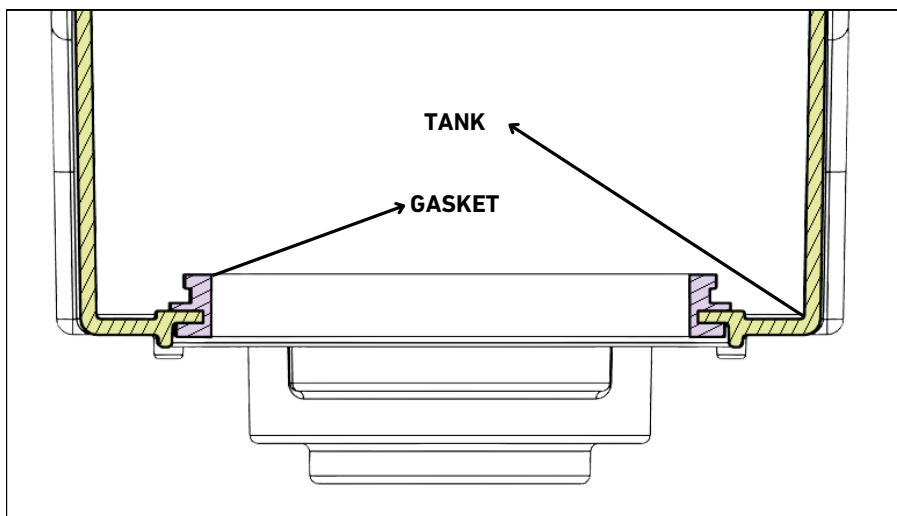

Figure 25
21.5.2. The cross-sectional view of the gasket and tank is illustrated in Figure 25.
22.2.2. Attach the gasket to the tank, paying attention to the cross-sectional view shown in Figure 25.